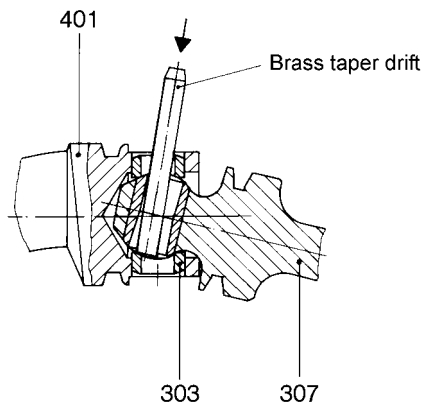

Figure 4: Dismounting the sleeves for joint bolts
- Push out the joint bolt (301).
- With a brass driver, drive out the two sleeves for the joint bolts halfway (303). Slant the joint shaft (307) for that purpose (see figure 4).